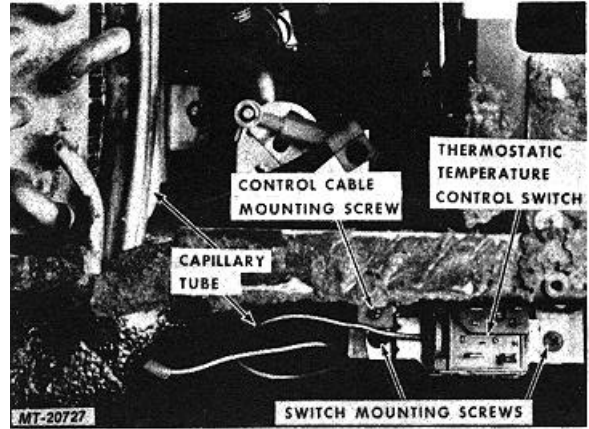

Fig. 56 Thermostatic Control Switch Mounting Details
5. Remove control cable mounting screw (Fig. 56).
6. Remove thermostatic control switch mounting screws and remove switch from bracket (Fig. 56).